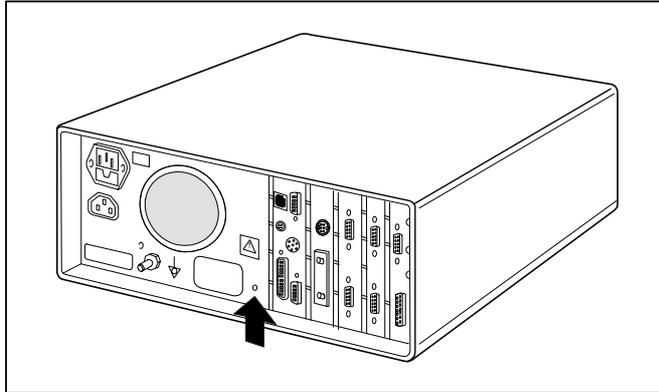

Figure 10 Service reset button
1. Make sure that the power is turned off the Monitor and unplug the power cord. Press and hold the service reset button on the rear panel for at least five seconds or until an audible tone is heard (see figure 10).